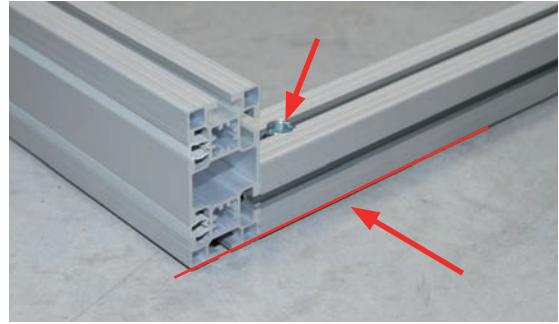

fig. 3.2-5
**Step 3** Insert a long frame profile **A2c** into the lower lead channel (towards the floor) between the side supports **A2a**. The ends of the frame profile and the side supports have to be on the same level and need to be flush-mounted (**fig. 3.2-5**). The cross pieces of the profile connectors should point upwards (towards you). Now tighten the profile connectors with the corresponding Allen key (ca. 25Nm).